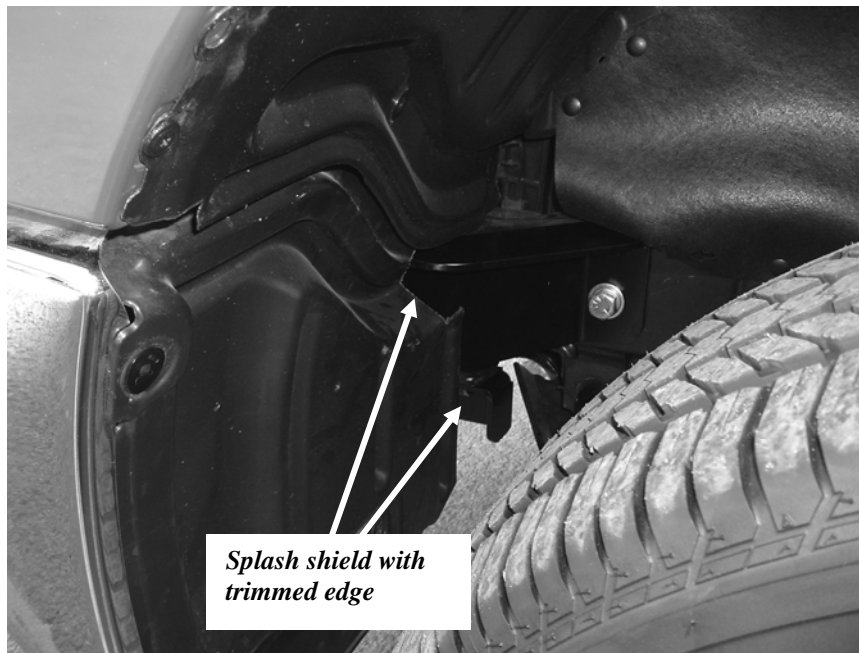

Figure 10 RH inner splash shield trimmed and installed
14. Remove the four(4) 10mm nuts from each frame extension and remove the extensions. **Figure 10**